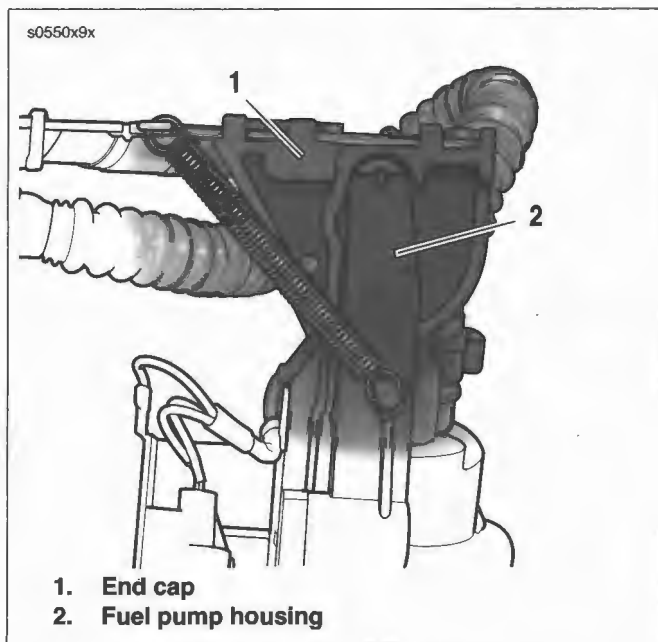

Figure 4-50. End Cap Engaged
5. See Figure 4-50. Pivot top plate and push down so end cap (1) engages fuel pump housing (2).